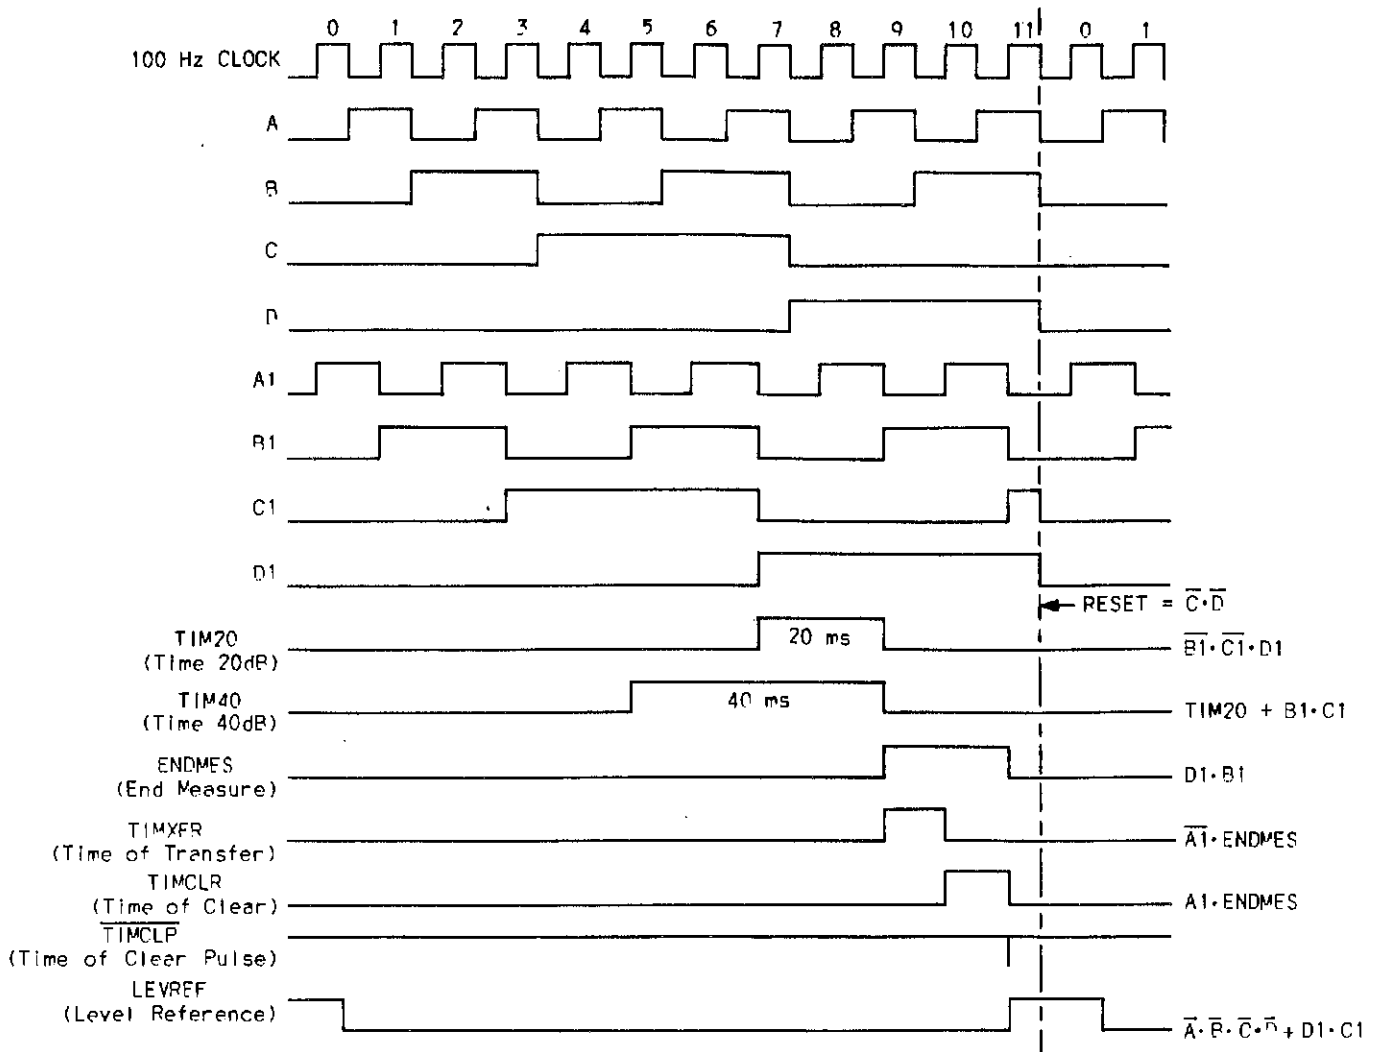

Fig. 7
3.11 Timing Logic: Figure 7 shows the timing signals produced by combinations of the two divide-by-12 counters. Both counters count in binary until $\bar{C} \cdot \bar{D}$ resets both counters. The diagram shows the logic equation for each signal; these signals will be explained fully in the Frequency Counter and Level Meter descriptions.
3.13 Counter and Display. The timing cycle begins with a TIMCLP signal (Time of Clear Pulse) which clears the 4-digit counter. The clear pulse is formed by differentiating the trailing edge of the TIMCLR signal (see Figure 7). The input signal is counted for 100 ms; the TIMXFR signal (Time of Transfer) overrides the input signal and transfers the counter contents to a storage register. The contents of the register are